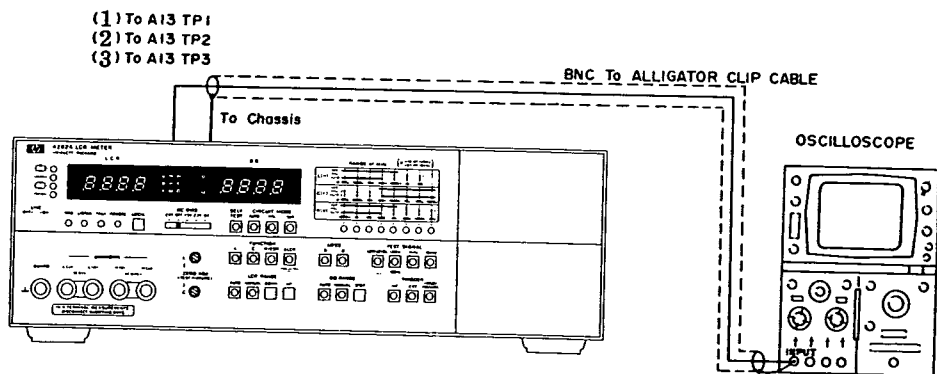

Figure 5-5. A13 Board Offset Adjustment.
(1) OFS - 1 ADJUSTMENT.
a. Connect BNC to dual alligator clip cable between oscilloscope and 4262A test point A13TP1 and 4262A chassis (see Figure 5-5).
**(2) OFS - 2 ADJUSTMENT.**
- a. Connect BNC to dual alligator clip cable (or 1:1 oscilloscope probe) between oscilloscope and 4262A test point A13TP2 and 4262A chassis (see Figure 5-5).